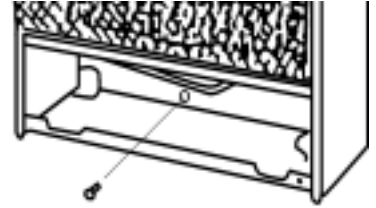

Figure 12 - Installing Bottom Mounting Screw
1. Locate bottom mounting hole. This hole is near bottom on back panel of heater (see Figure 12).